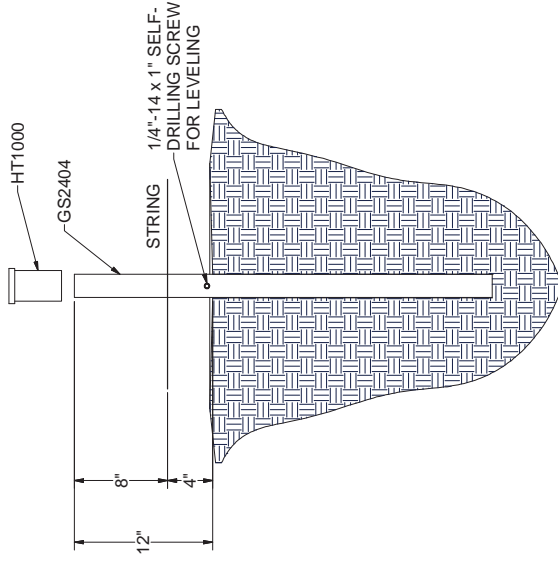

FIGURE 3
8. DRIVE THE REMAINING GROUND STAKES INTO THE GROUND, LEAVING APPROXIMATELY 8" ABOVE THE STRING FOR SECURING HOOPS. [FIGURE 3]
3. SECURE FRAME SECTIONS TOGETHER USING (2) 1/4"-14 X 1" SELF-DRILLING SCREWS INSTALLED AT EACH CONNECTION. SEE [FIGURE 3]